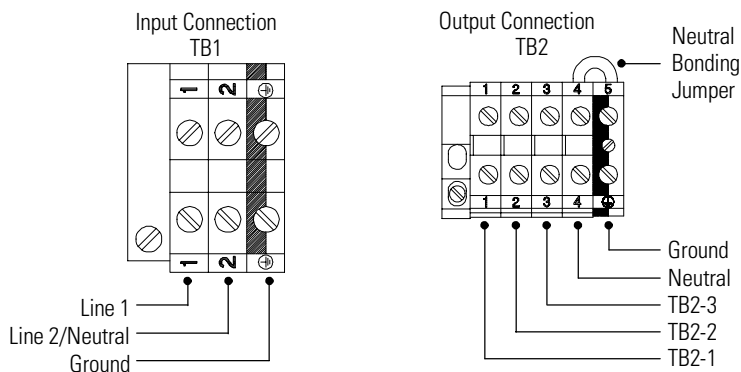

Figure 17. Hardwired PPDM Terminal Blocks
- Hardwire the input (TB1) and output terminations (TB2) for the PPDM. See the following hardwired terminations table for specifications. See Figure 17 for a detailed view of the terminal blocks.